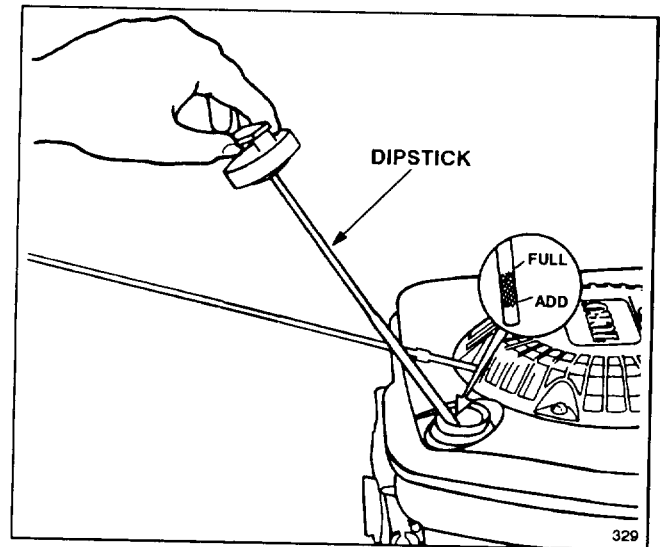

Figure 4
Before each use, ensure oil level is between FULL and ADD marks on dipstick (Fig. 4). Add oil if level is low.
3. Wipe dipstick and insert it into filler neck. Rotate cap clockwise 1/4 turn. Then remove dipstick and check level of oil on side of dipstick with FULL and ADD marks (Fig. 4). If level is low, add only enough oil to raise level to FULL mark on dipstick. **DO NOT FILL ABOVE FULL MARK BECAUSE ENGINE COULD BE DAMAGED WHEN STARTED. POUR OIL SLOWLY.**